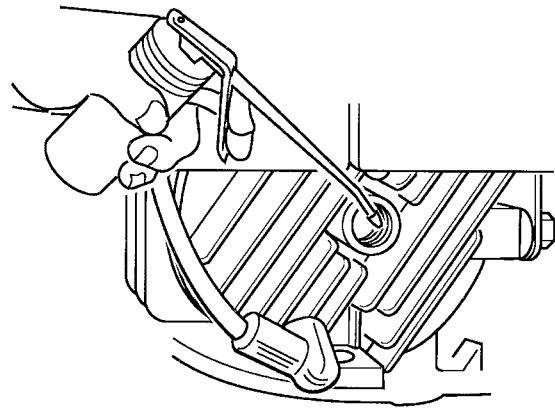

Figure 51
1. Remove spark plug. Using an oil can, squirt about one tablespoon of oil through spark plug hole (Fig. 51).